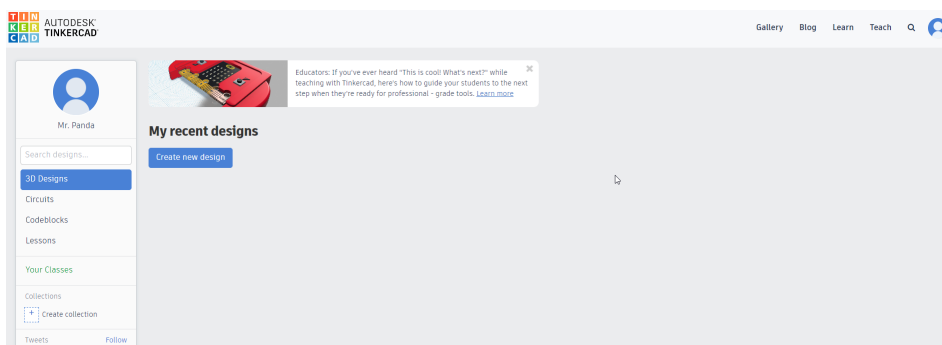

Figure 15.1: Tinkercad Workspace
4. If you have done everything correct, you should have a similar workspace as shown in Figure 15.1.